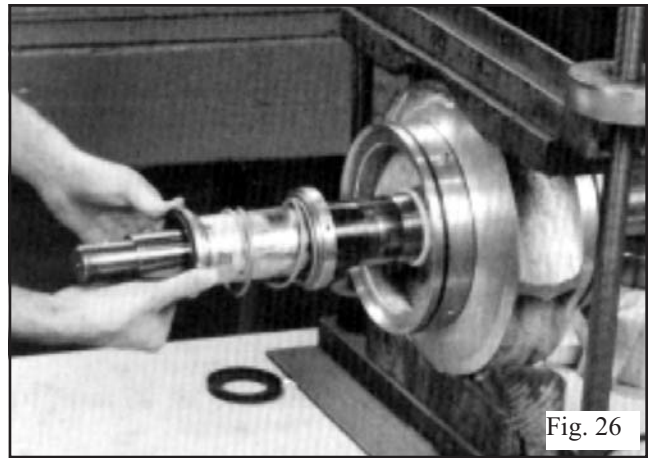

Fig. 26
9. Apply fine coat of silicon grease or equivalent to shaft sleeve, and slide seal head assembly (383) over sleeve. (See Fig. 26) If seal is a John Crane Type 8, set seal to approximate dimension shown in Fig. 28 and tighten set screws. Next, install O-rings (412G) onto glands (250) and install glands on the shaft.